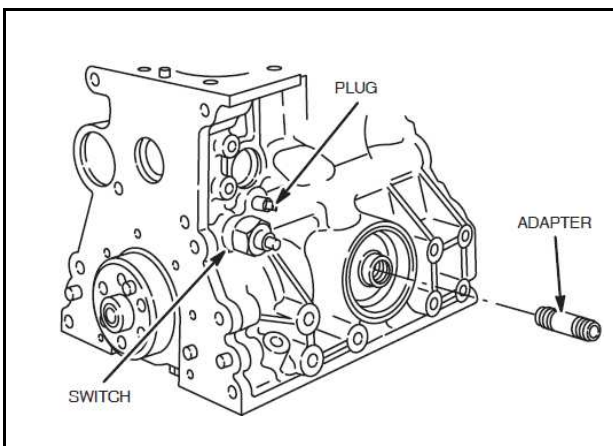

Fig.10-Removing Oil Pressure Switch
3. Remove oil pressure switch, water gallery plug and oil filter adapter, Fig.10.